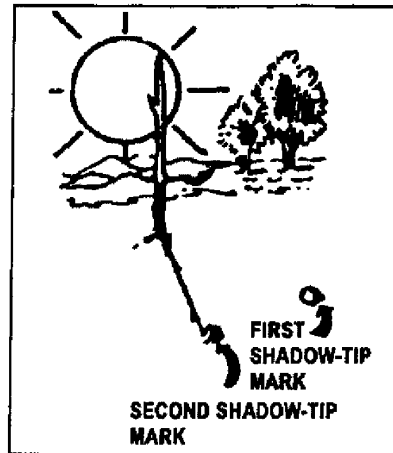

Figure C-41. Second shadow-tip mark
- b. Wait 10 or 15 minutes until the shadow tip moves a few inches. Mark the new position of the shadow tip as in step 1a (figure C-41).